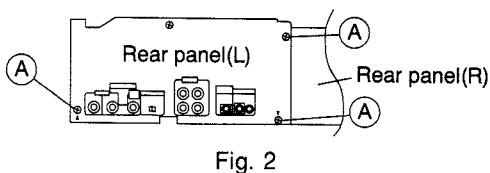

Fig. 2
1. Remove the three screws **A** fastening the rear panel (L) (Fig 2).